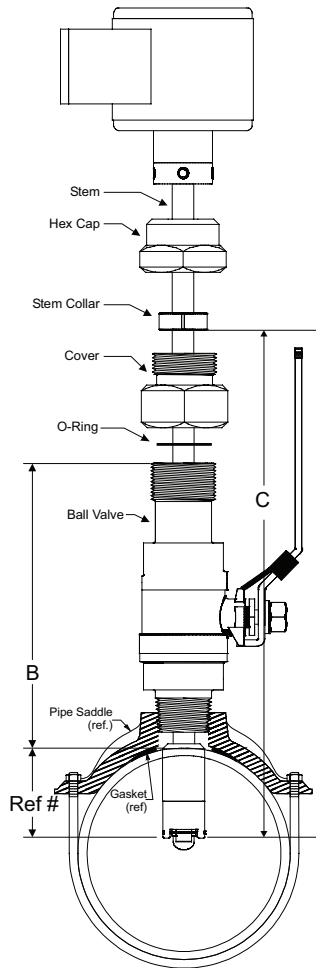

Figure 9: Sensor tip and stem collar
9. The sensor rotor assembly is to be located a fixed distance from the center of the pipe. To position the impeller at this depth, a reference measurement for the pipe size and schedule is used. Look up the pipe size and schedule number in "Customer Reference Number Tables" on page 16 and note the reference number. Next, measure from the outside wall of the pipe to the top of the ball valve "B" in Figure 9. Add this number to the reference measurement. The resulting number is the distance from the recess of the sensor tip to the bottom of the stem collar "C" in Figure 9.